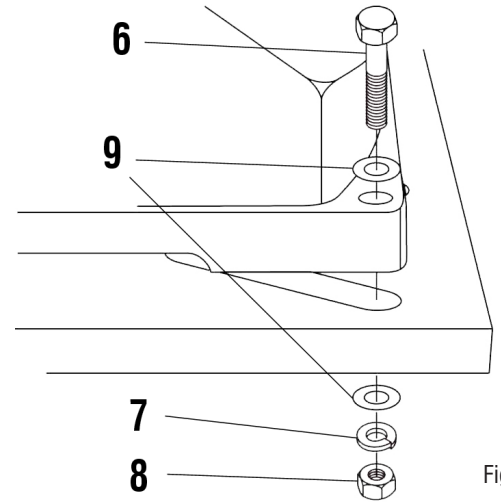

Fig. 2
3. Secure the grinder with the hardware described in its owner's manual. If the mounting hardware is not listed, use a hex bolt (#6) not exceeding 7/16 in. in diameter, two flat washers (#9), a lock washer (#7) and a hex nut (#8). (Fig. 2)